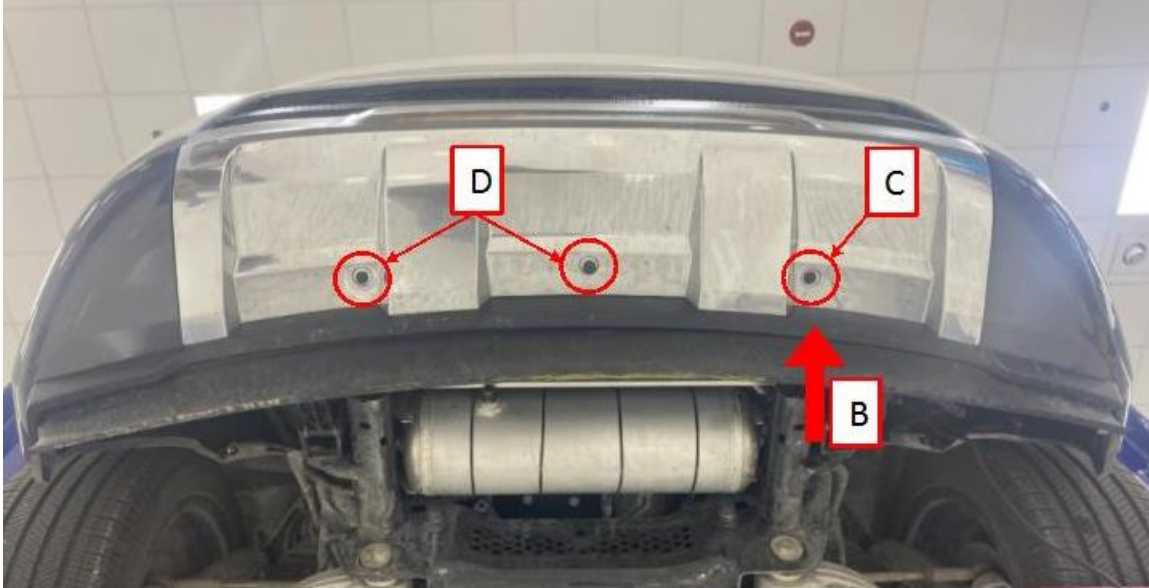

Fig 9
7. Adjust front fascia lower fastening bolts. Refer to Fig 9 and the following steps.
- B. Apply pressure at the driver side fastener to bias the fascia forward. The driver side bolt should appear rearward in the fastener pocket of the fascia (Fig 9).